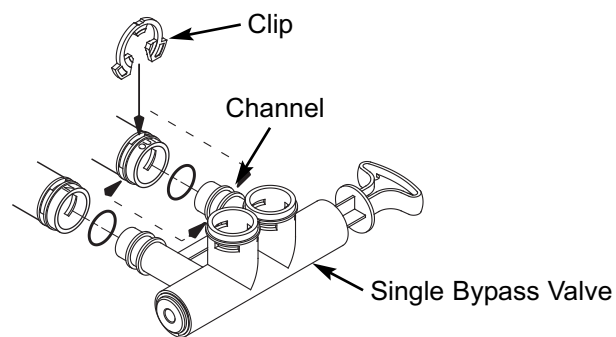

FIG. 9
5. Push the single bypass valve into the softener valve as far as it will go. Snap the two large holding clips into place, from the top down as shown in Figures 9 & 10.